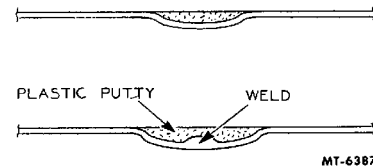

Fig. 8. Application of Plastic Putty
1. Using a suitable driving tool, work the weld down below the surface of the surrounding area, Fig. 8. The weld should be depressed or recessed only enough so that it can be